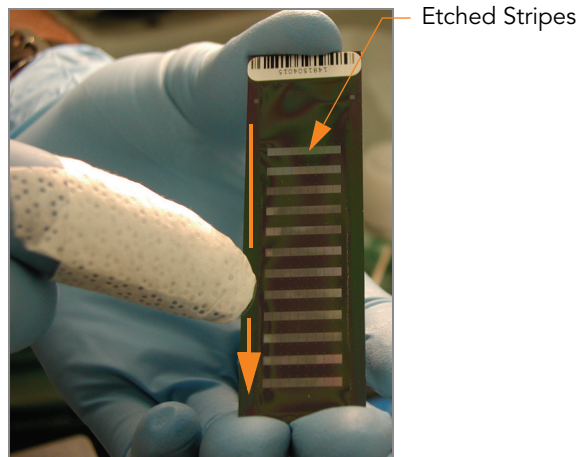

Figure 98 Wiping Edges of BeadChip
1. To clean the BeadChips, wrap a Prostat EtOH presaturated wipe around your index finger. Place the wipe against the edge of BeadChip, no further than 2 mm from the edge of the slide (Figure 98).
2. Wipe along the edge of each BeadChip five or six times (Figure 98), until the surface is clean and smooth and no streaks are visible.